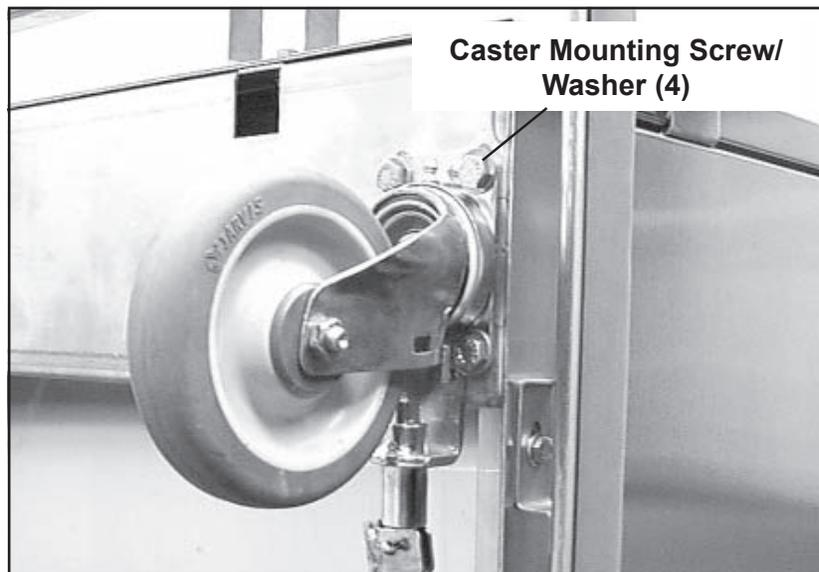

Figure 27. Caster Mounting Screws (4)
3. With a 1/2 in. wrench, remove the four mounting screws/washers on the caster base (Figure 27).